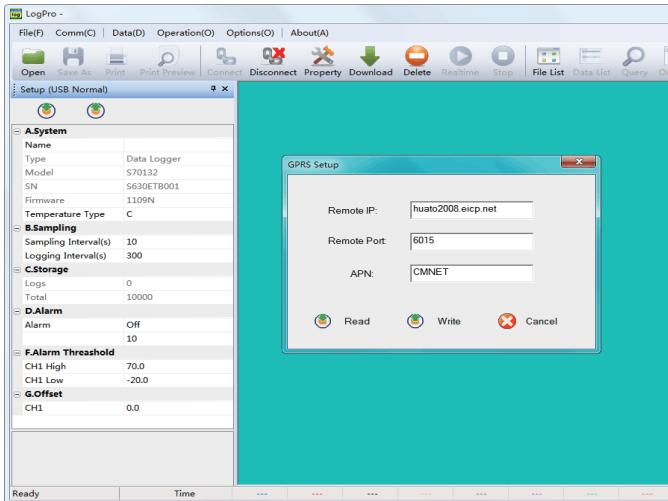

Figure 1-7 GPRS Settings
Click "LoPro" software "connect" button to select the instrument corresponding COM slogans, click 【 confirm 】 - successfully connected to the software, click options (O) - > click 【 GPRS Settings 】 , pop-up GPRS Settings window to click on the "read configuration" window, as shown in figure 1-7 complete configuration information to fill out the information and then click the "write configuration" - the popup prompt window after successful setup GPRS 】 【 click [sure] to click the "cancel" GPRS Settings window, exiting GPRS Settings. Instrument GPRS setup is complete.